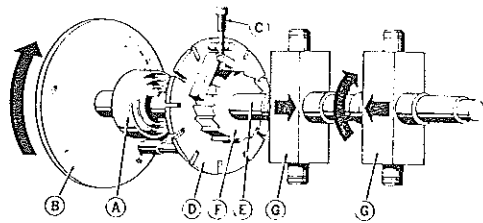
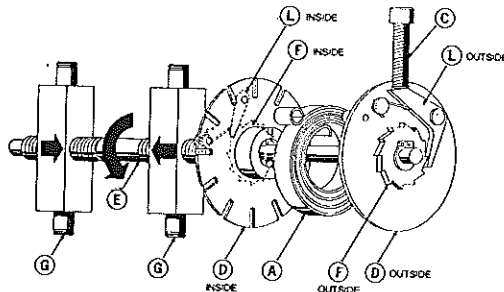
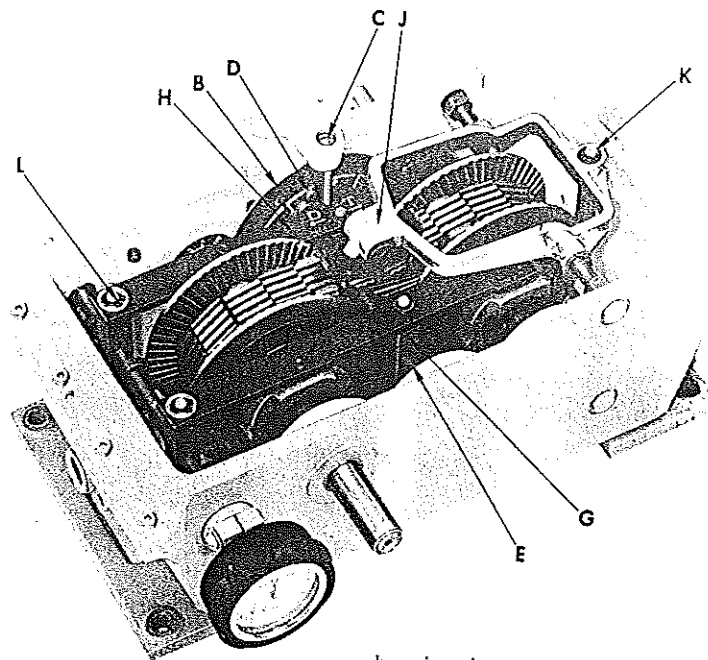

Figure 3—Models 1 thru 5
Figure 4—Models 0 and 1/2
Figure 6
There are two types of automatic chain tensioning devices used in the VARI-CHAIN transmission. Figure 3 and Figure 4 illustrate the chain tensioning device found in VARI-CHAIN Models 1 thru 5 and Models 0 and 1/2 respectively. Although there are differences in the construction of the two tensioning devices, the principle of operation is the same.
To remove the upper housing, take off inspection cover and remove blocking screw (C) (Figure 6). Remove the bolts at each end of the transmission and eight bolts inside the transmission. Six of these bolts can be removed through the inspection cover. On size 0 and 1/2 units remove two 10-24 bolts in housing holes on either side of blocking screw. These screws are located in housing counter bolts. The remaining two can be reached through the oil breather plug hole on each side of the nameplate. The top shoe (J) will be removed with the upper half of the housing. Caution should be exercised in removing the spring support rod (K) to retain the spring and washer with the spring support rod. Remove two dowel pins (Locator No. 103) page 6 or roll pins (Locator No. 132) page 7.
- Support upper shoe (J) (Figure 6) in position away from chain. (Except size 0, which has no tensioning shoes.)
- Remove blocking screw (C).
- Turn tension flange (D) in direction marked "D" as shown on control lever (H) to slacken chain. (Use screwdriver in slots of flange.)
- Refer to Figure 3 and 4. Turn tension flange (D) in direction marked "T" (clockwise rotation) until wheel faces are snug against the chain. For VARI-CHAIN Models 1 thru 5 continue clockwise rotation of the tension flange (using screwdriver in slots) until ratchet sounds cease indicating the automatic tension spring is fully loaded. Back off tension flange (D) to line up stops with blocking screw (C). For VARI-CHAIN Models 0 and 1/2, proceed by inserting blocking screw into the outside tension flange (D), thus blocking rotation of the outside tension flange (D) and releasing outside ratchet (L). Finally load spiral spring (A) by turning the inside tension flange (D) in a counter-clockwise direction until ratchet sounds cease. Rotate the transmission by hand during this setting.